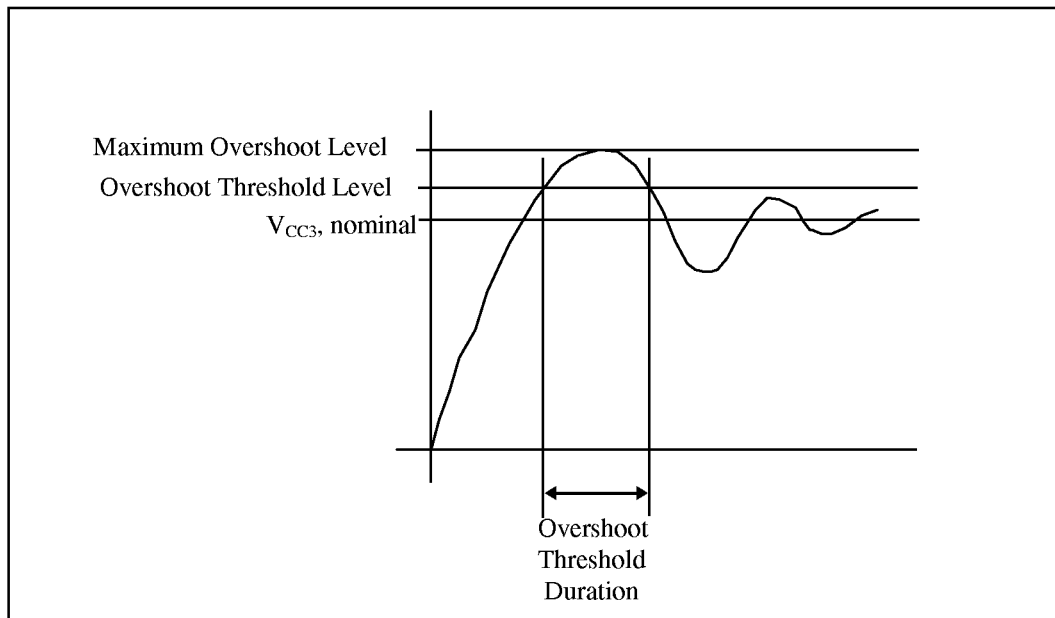

Figure 14. Maximum Overshoot Level, Overshoot Threshold Level, and Overshoot Threshold Duration
2. See Figures 14 and 15.
These overshoot and undershoot specifications are illustrated graphically in Figures 14 through 17.